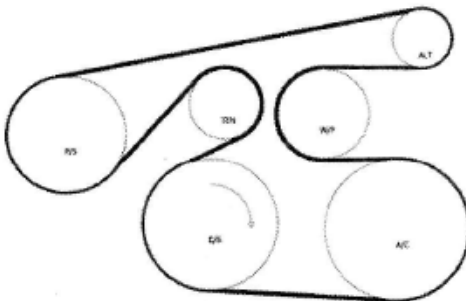

Fig 1
3. Take note of the under hood belt routing diagram. If missing, refer to Fig 1.
13. Install new serpentine belt around each pulley except the alternator pulley. Now rotate the tensioner in the clockwise (down) direction and slip the belt on to the alternator pulley. While holding the tensioner in clockwise direction, remove and discard the locking pin in the tensioning strut. Slowly allow tensioner to move in the counter clockwise (up) direction until the belt is tensioned. **Note: Refer to Figure 1 or under hood sticker for proper belt routing. Check and ensure that belt ribs are properly seated in all the pulley grooves.**